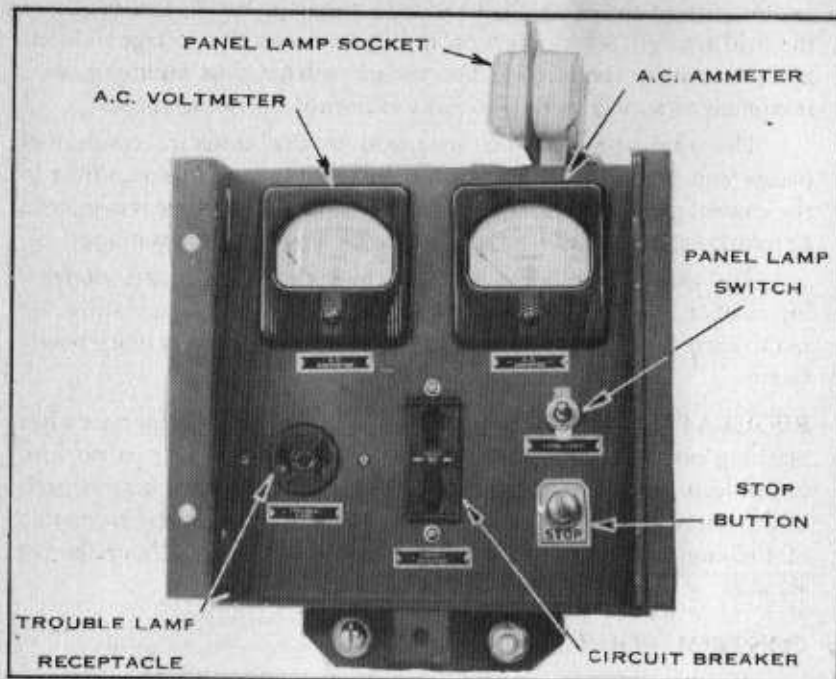

FIG. 10 CONTROL PANEL
CONTROL PANEL—Meters and various controls are mounted on the control panel, Figs. 10 and 11.
- k. Open the control panel door and make sure that the CIRCUIT BREAKER handle, Fig. 10, is in the OFF position so no load is connected.
- CHECKING OPERATION**—Check the ENGINE OIL PRESSURE GAGE immediately after the engine starts. Pressure will be high until the engine warms up. Observe the readings of gages and meters on the control panel, Fig. 10, as a check on normal operation. Normal readings after the Power Unit reaches normal operating temperatures are given here.
b. **CONNECTING THE LOAD**—When practicable to do so, allow the Power Unit to warm up somewhat before connecting the load. This warming up should reach at least the point where the engine operates smoothly with the CHOKE button entirely in. Then connect the load by throwing the CIRCUIT BREAKER control handle, Fig. 10, to the ON position. The CIRCUIT BREAKER will open automatically and disconnect the load if the Power Unit is severely overloaded. Throw the control handle to the OFF position to disconnect the load when desired.
When it is desired to stop the Power Unit, first disconnect the load by throwing the CIRCUIT BREAKER handle, Fig. 10, to the "OFF" position. Then press the "STOP" button firmly until the engine has entirely stopped. Whenever the Power Unit is not to be operated within a few hours, keep the canvas cover installed on it. It is important to keep this cover on the Power Unit at all times when the Power Unit sets outdoors or is in transit, unless the Power Unit is in operation or is being serviced.